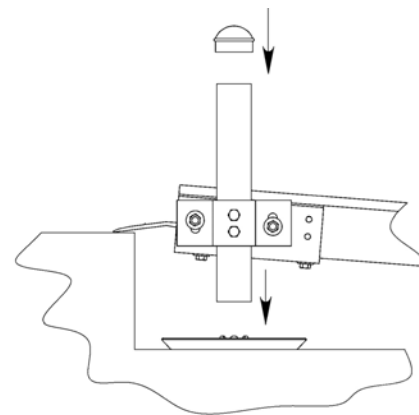

FIG. 41
- iv) Level support tube and then tighten 3/8" nylock nuts to secure support tube bracket (FIG. 41).